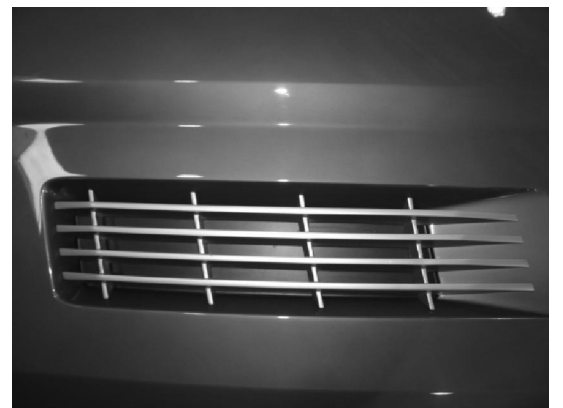

Figure 1
3. After the new hood (06-1106-C11145) has been painted, install the vents in the hood. Use the drill with the Philips #2 bit, and four screws (00-9001-C11633\*) for each vent. The vent with part number 06-1101-C09837 goes on the driver side of the hood, and 06-1101-C09838 goes on the passenger side. Both vents go on the top of the painted hood (06-1106-C11145). (**Figure 1**).